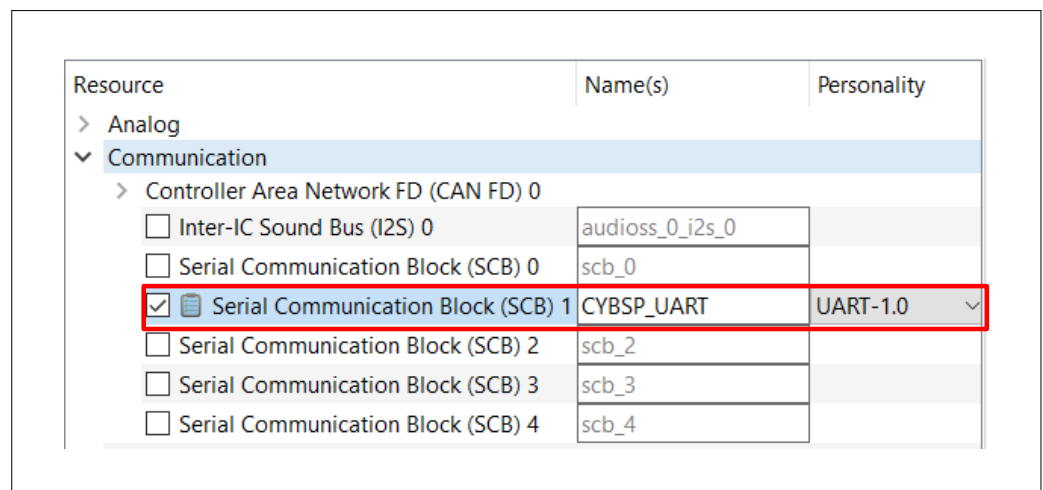
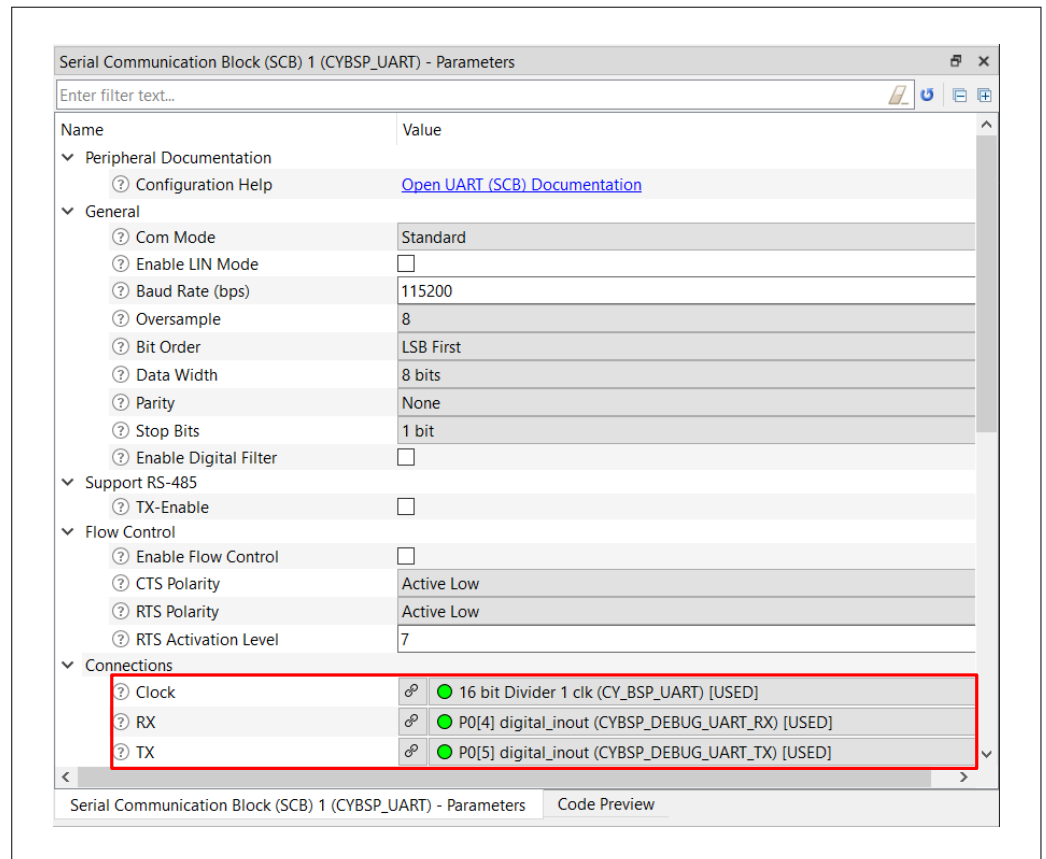

Figure 19 Enabling SCB as UART
Figure 20 Setting UART configuration parameter
- a. Go to the **Peripherals** tab in **Resources Categories** pane and enable **Serial Communication Block (SCB) 1**, set personality as UART-1.0 and the name as "CYBSP_UART". In Figure 19, SCB instance 1 is selected based on Rx/Tx pin required for the kit. As shown in Figure 20, the drop-down of Rx and Tx configuration parameters shows pins supported by SCB 1. See the device datasheet for the pins available for each SCB instance.